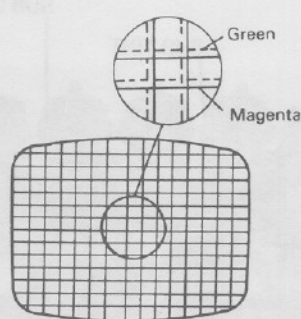

Figure 3-11.
5. Adjust the tabs of the six-pole magnet rings so that the green pattern overlaps the magenta pattern to form a registered white pattern at center screen. Refer to Figure 3-11.